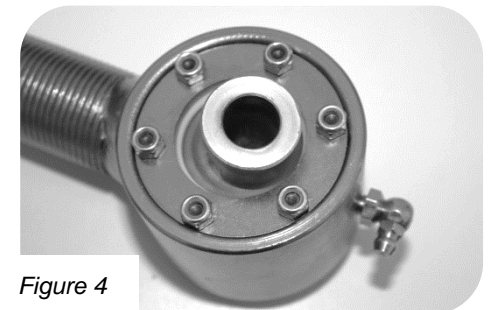

Figure 4
21. Insert the remaining four cap screws through the remaining holes and install nuts. (Figure 4)